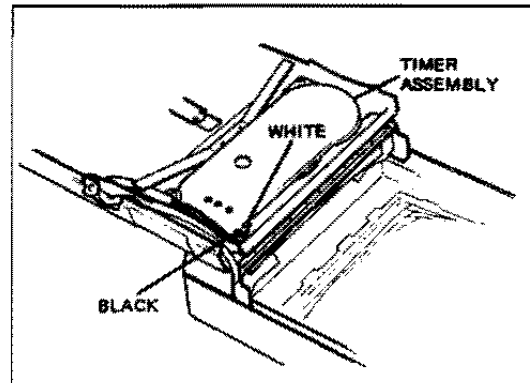

FIG. 4-6 UNSOLDERING THE TIMER LEADS
- d. Open the rear door and unsolder the black and white leads (identified in Figure 4-6) from the timer.
- Solder the black and white leads to the timer (see Figure 4-6).